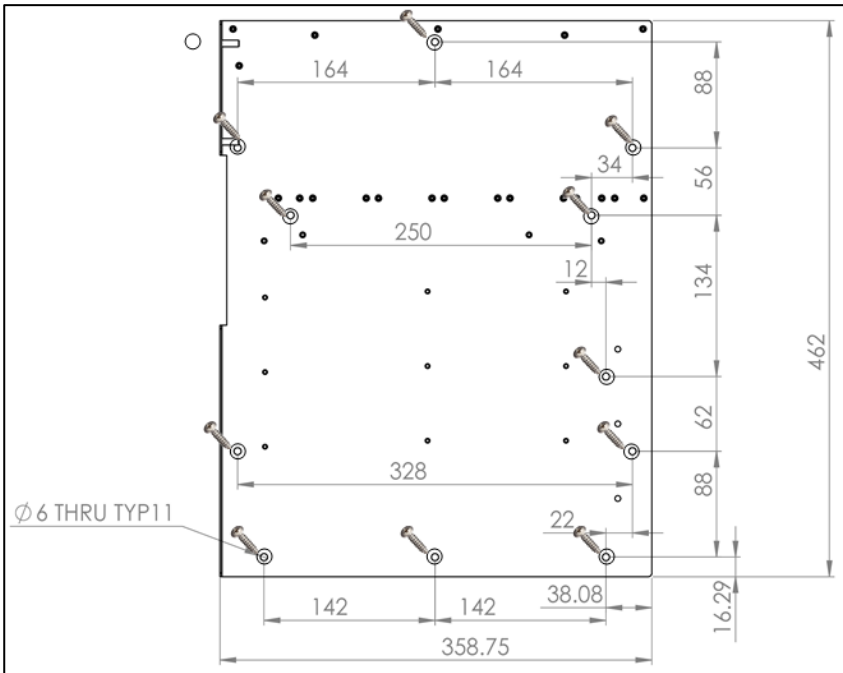
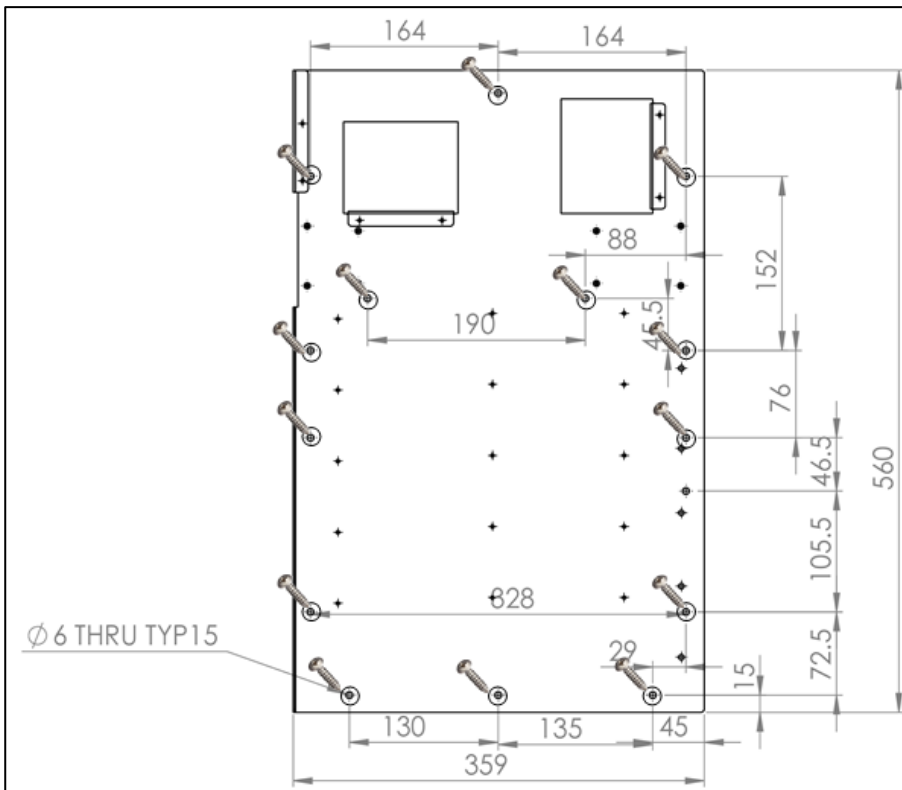

Figure 58: Platinum Pro 30 and Platinum Touch 30 Back Panel Dimensions
Figure 61: Platinum Pro 50 and Platinum Touch 50 Back Panel Dimensions
- Cut a hole in the door that is 20 millimetres larger than the dimensions shown in Figure 58 and Figure 61.